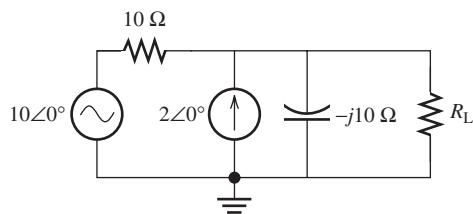

FIGURE P6.52 Circuit for Problem 6.52.
6.52 (H) Find the Thévenin and Norton equivalent circuits for the circuit shown in Figure P6.52, as seen by the load resistor, R_L .